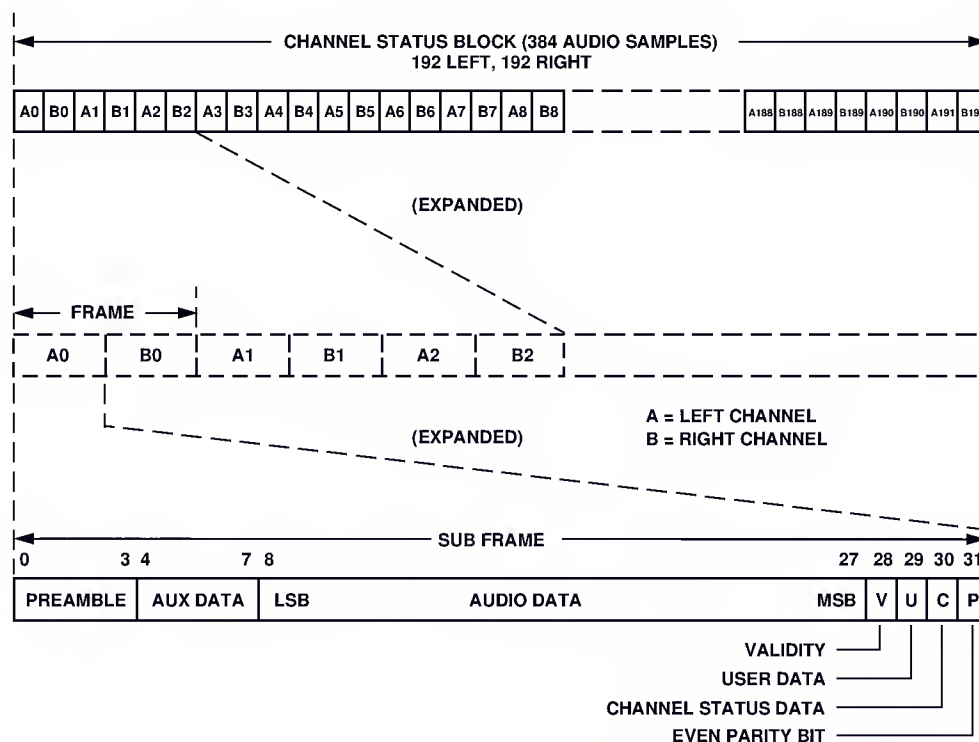

Figure 5. Block, Frame and Subframe Organization
As noted above, these serial digital audio communication schemes are organized using a frame and subframe construction. There are two subframes per frame (ordinarily the left and right channel). Each subframe includes the appropriate four bit preamble, four bits of “auxiliary” (aux) data, 20 bits of audio data (LSB first), a “validity” (V) bit, a “user” data (U) bit, a Channel Status bit, and an even parity (P) bit. The Channel Status bits and the user bits accumulate over many frames to convey control information. The Channel Status bits accumulate over a 192 frame period (called a Channel Status block). The user bits accumulate over 1176 frames when the interconnect is implementing the so-called “subcode” scheme (EIAJ CP-2401). The organization of the Channel Status block, frames and subframes is shown in Figure 5.